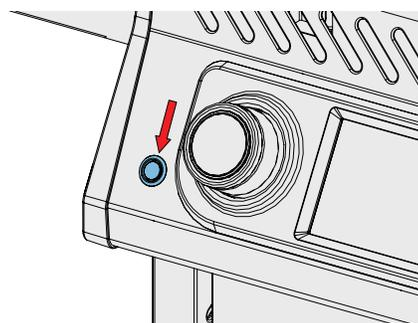

Fig. 5
6. Ensure your appliance is turned on. (Fig 5)